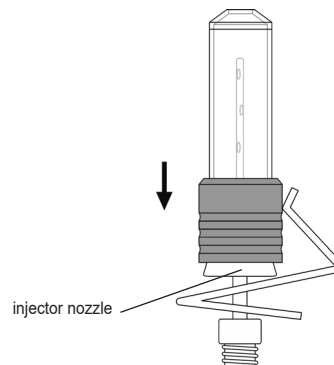

Fig. 3
- Attach the open end of the protective cover to a suitable injector nozzle (fig. 3).